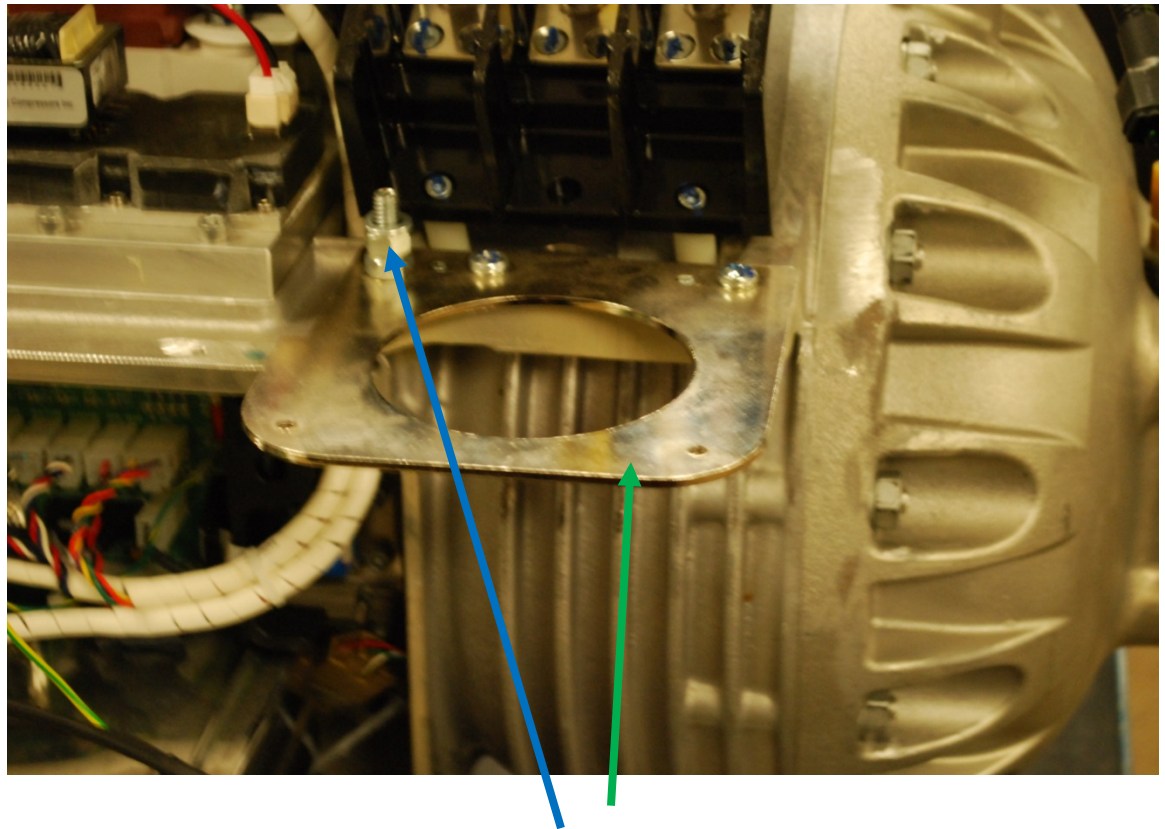

Figure 3 Mains Plate Ground Post
2. Clip the ESD strap ground clip to the compressor ground post. See blue arrow in Figure 3.
3. If you need to remove the Soft-Start, clip the ESD strap ground clip to the Mains Plate. See green arrow in Figure 3.